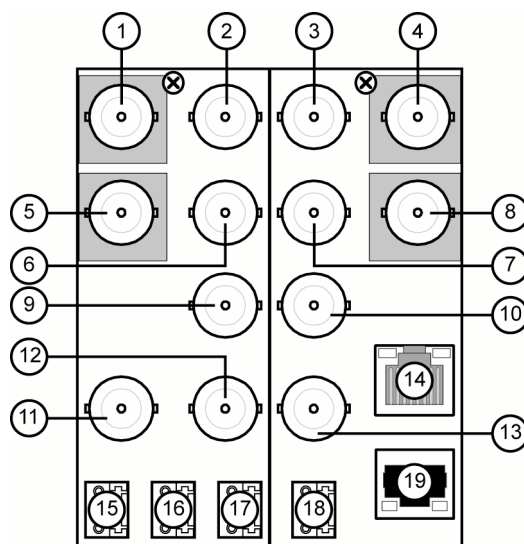

Figure 2.6 RM20-9229-C Cable Connections
The Looping feature is only available for the 9229-QS when using the **RM20-9229-C** Rear Module in a 20-slot frame. Refer to **Figure 2.6** for cabling designations.
- Connect the reference input source to **REF IN BNC** (item 112 in Fig. 2.6).
The 9229-QS includes eight General Purpose Input (GPI) pins to interface with external equipment. There are eight input pins labeled GPIO 1-8 on the terminal block of the Rear Module (**Figure 2.4** , **Figure 2.5** , or **Figure 2.6**). Ports are pre-configured to be only an input (GPI). Electrically, the ports are setup for contact closure to ground, with a 1Kohm pull-up resistor to +5V, and default to a logical high state.